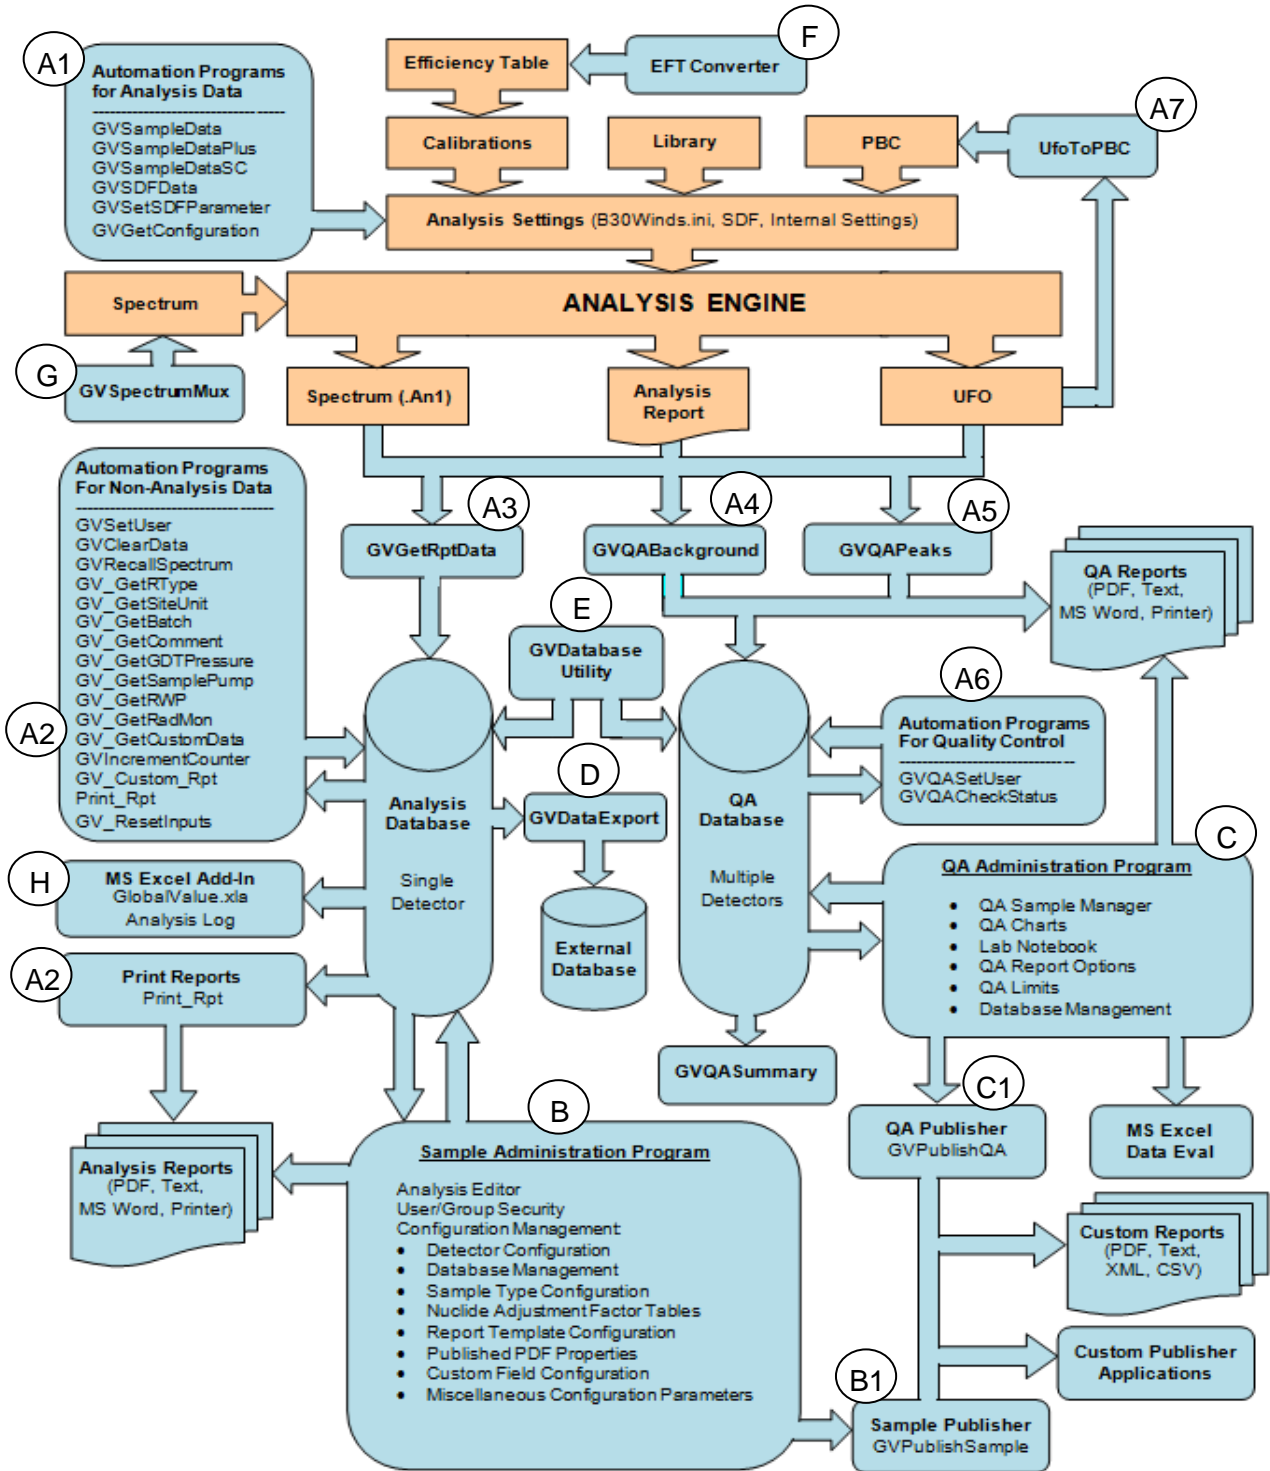

Figure 3.2.1 Global Value Process Overview
Global Value extends GammaVision automation and spectrum analysis with tools to efficiently capture sample and analysis data, as well as manage the results in a secure electronic environment. An outline of this process is shown in Figure 3.2.1.
- A) Global Value uses the Job process in GammaVision to automate sample measurements. This process is initiated from the Quick Start program which dynamically creates Job from Job Templates and Configuration Files as described in Section A.1. Global Value provides several programs that are run within Jobs to collect and store sample information, load analysis results into databases, generate reports, etc.. These programs are described in Appendix B, and are shown in the Figure 3.2.1 process as “AX”, where X is a numeric value.